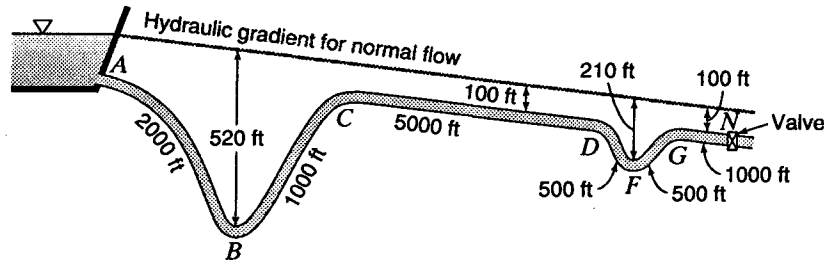

Figure P12.36
- 12.37 Refer to Fig. P12.36, but take all the dimensions given in feet to be in meters instead. This 10-km-long pipe has a diameter of 1.35 m and a wall thickness of 21 mm. Assume $E = 205$ GPa and $E_p = 2$ GPa. The initial steady flow velocity is 5 m/s. The valve at G is then partially closed so as to reduce the velocity to 1 m/s in 14 s. Find (a) the maximum pressure rise due to water hammer and (b) the location of the point of maximum total pressure.